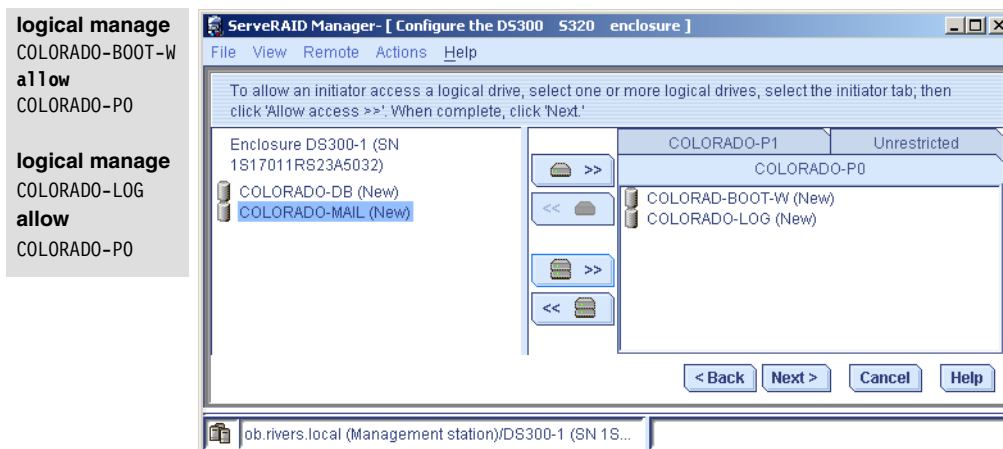

Figure 4-83 Assigned logical drives to an iSCSI initiator alias
29. The assigned logical drives will be removed from the enclosure list and added under the initiator alias. When a logical drive is assigned more than once to an initiator, they are shown in red with the number of assigned initiators. Click **Next**. See Figure 4-83.